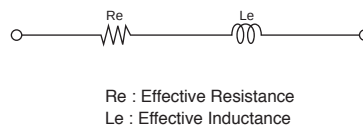

Fig. 2-4 Equivalent Circuit of CERALOCK®
Considering the limited frequency range of $F_r \leq F \leq F_a$, the impedance is given as $Z = R_e + j\omega L_e$ ($L_e \geq 0$) as shown in Fig. 2-4, and CERALOCK® should work as an inductance L_e (H) having the loss R_e (Ω).